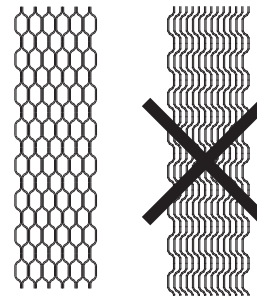

Fig.10
- When arranged correctly, the stacked plates form a honeycomb pattern (Fig. 10).